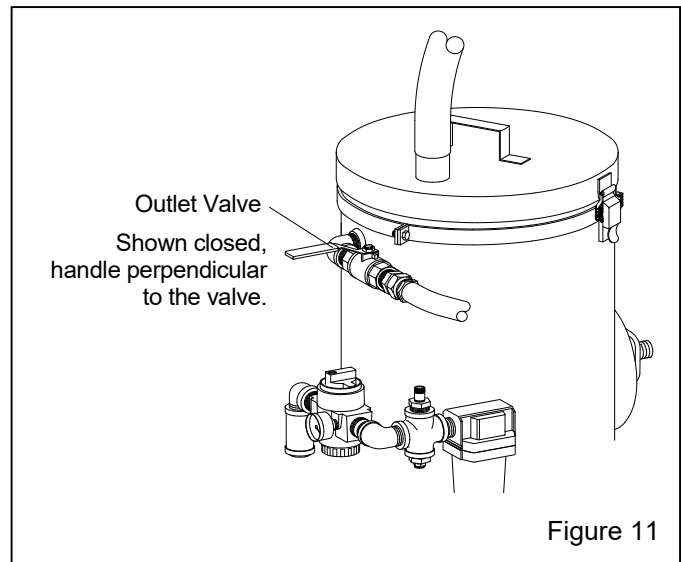

Figure 11
4.3 Close the blast machine's outlet valve. The valve is closed when the handle is perpendicular to the valve, as shown in Figure 11.